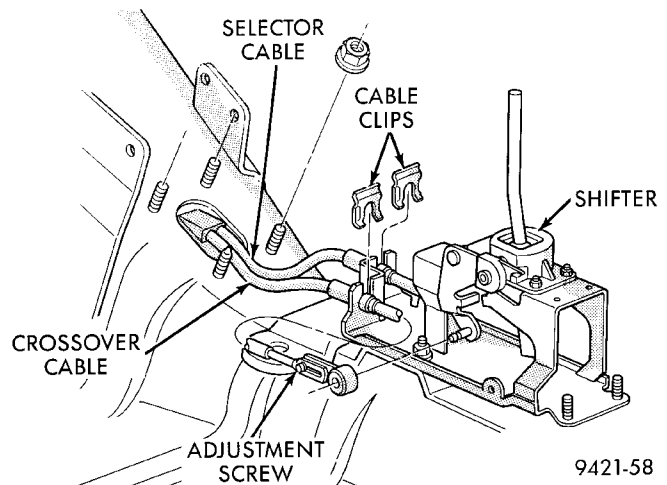

Fig. 139 Crossover Cable Adjustment Screw
- (1) Remove shift console from vehicle.
- (2) Loosen adjusting screw on crossover cable at shifter (Fig. 139).